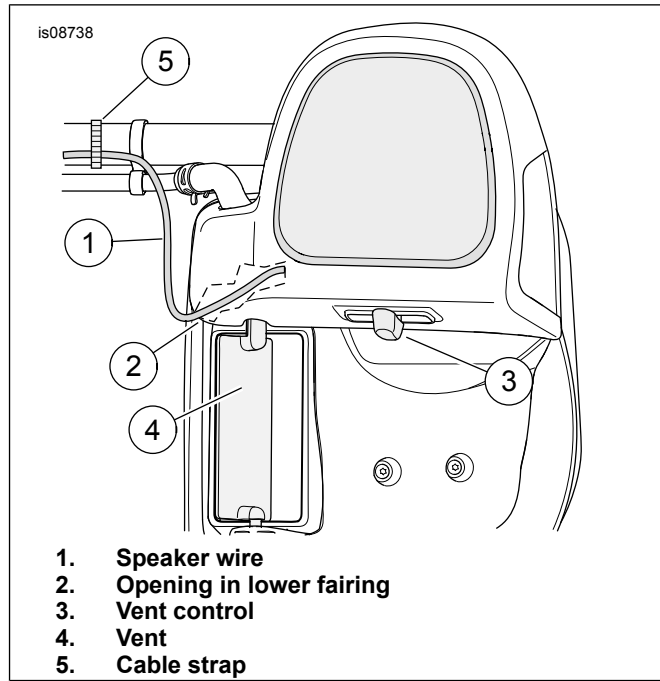

Figure 1. Speaker Wire Routing
- See Figure 1. Route wire through small opening (2). Keep wire from contacting the vent (4) and vent control (3).
- Secure wires with cable strap (5).